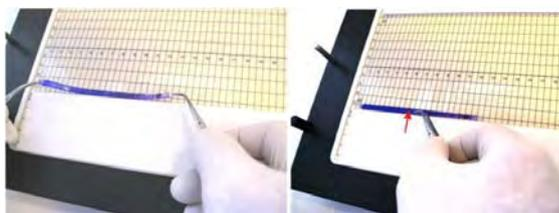

Fig. 4.5
13. Trim the film support of the IPG strips on both sides. Place the IPG strips gel-side down, anodal sides to the right, into the slots of the SDSGel and push them carefully towards the anode edges of the slots (fig. 4.5). Gently slide along the backing of the strips with the forceps to ensure good contact to the bottom of the slots.